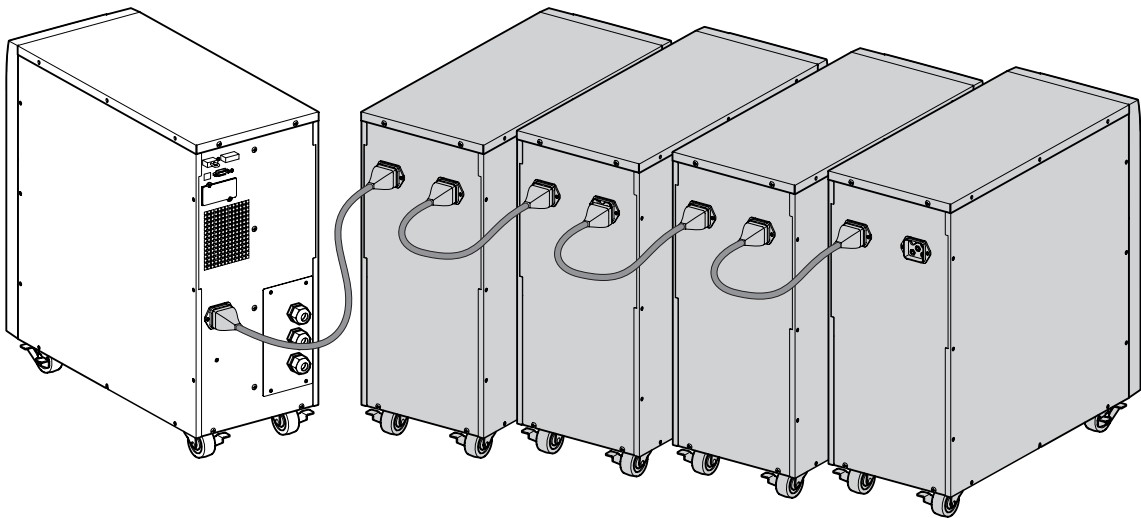

Figure 7. Connecting the EBMs.
1. Plug the EBM cable(s) into the battery connector(s) as shown in *figure 7*. Up to four EBMs may be connected to the UPS.